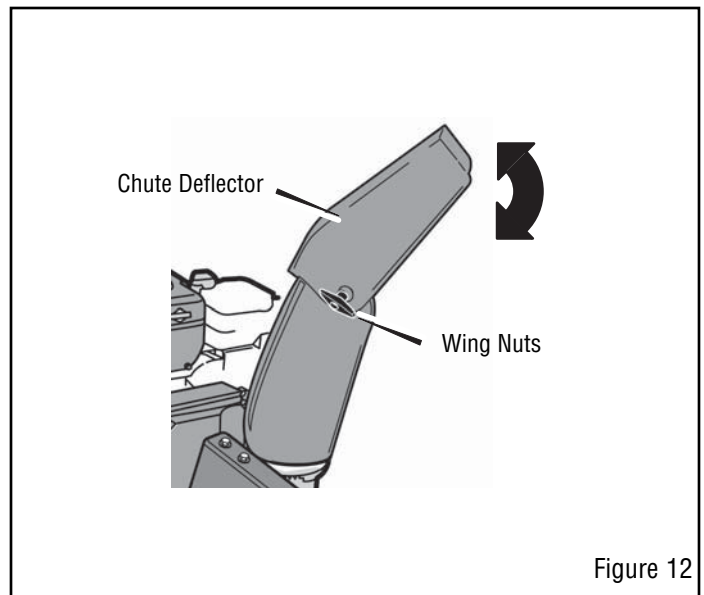

Figure 12
2. Adjust the **snow chute deflector**. Loosen the **wing nut** on the side of the **snow chute deflector**. Raise the **snow chute deflector** for more distance or lower for less distance. Tighten **wing nut** (see Figure 12).